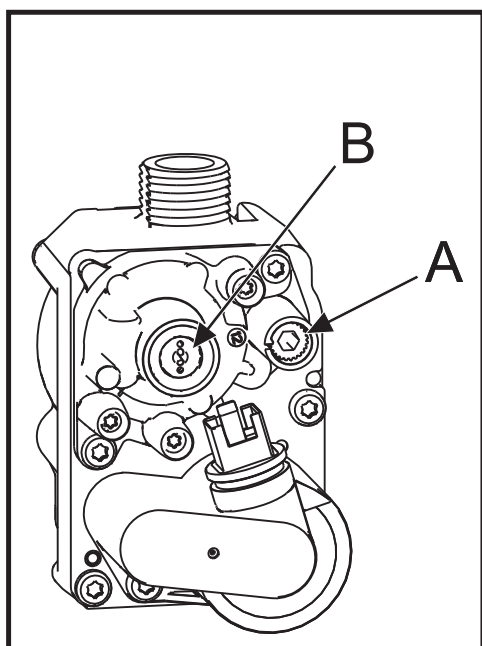

fig. 33 - Gas valve
3. Now adjust the **Throttle setting** (fig. 33 - screw **A**) until the CO_2 is at the correct **SETTING LEVEL** (see table 4), confirm that the CO/CO_2 ratio is within limits (clockwise to increase gas).
2. Now adjust the **offset pressure setting** (fig. 33 - cup **B**) until the CO_2 is at the correct **SETTING LEVEL** (see table 5), confirm that the CO/CO_2 ratio is within limits (clockwise to increase gas).